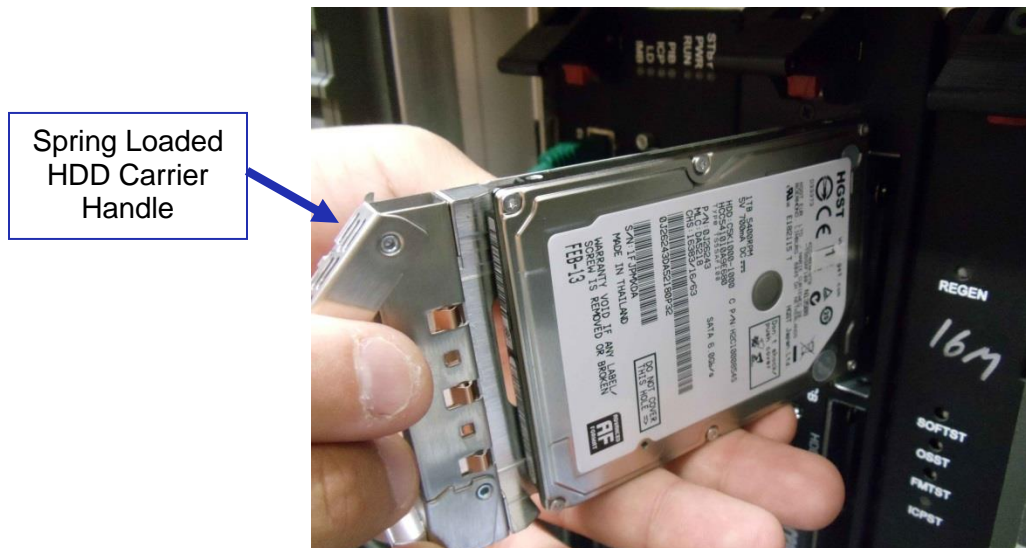

Figure 70: HDD Insertion
- With the carrier handle open, insert the drive all the way into the chassis cage (Figure 70).